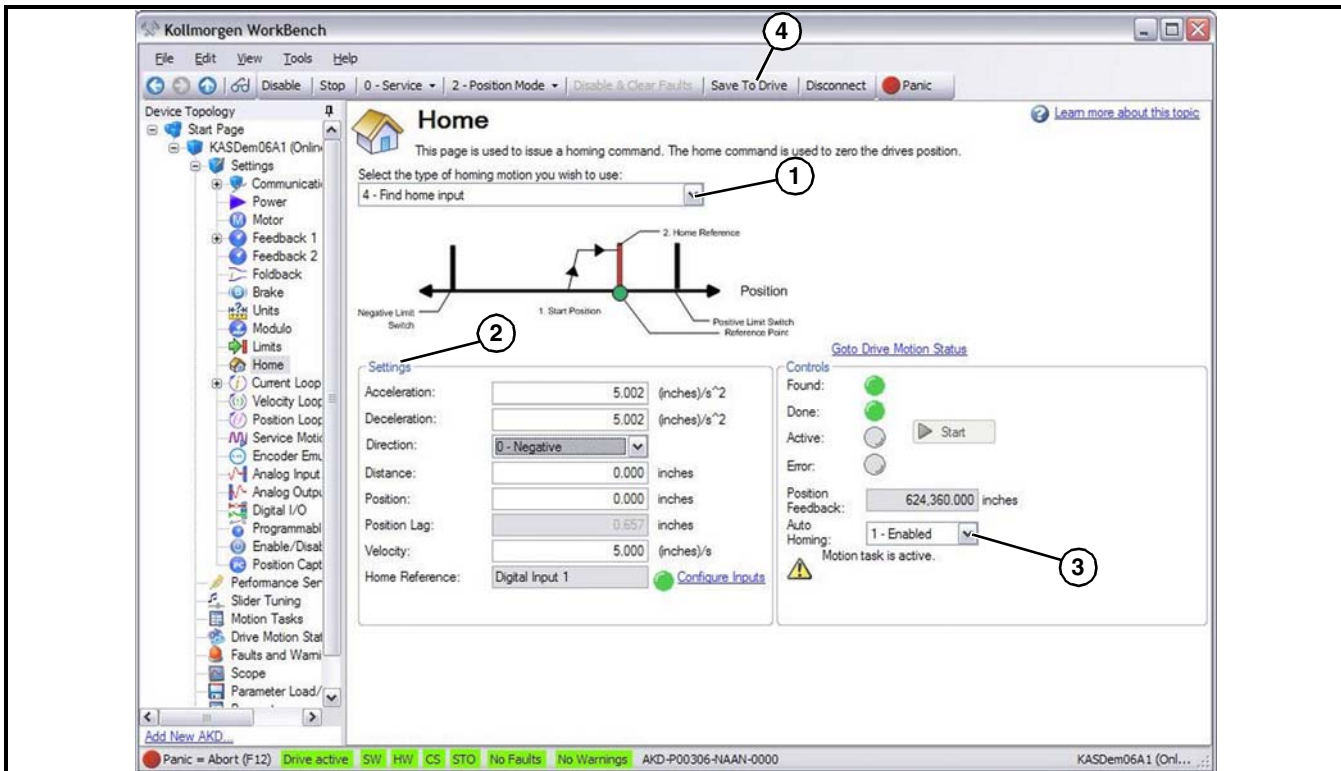

Figure 44
1.Fill in the **Select the type of homing motion you wish to use: (Figure 44, item 1).**
2.Fill in the **Settings (Figure 44, item 2)** Values.
•Set **Auto Homing: (Figure 44, item 3):**
-0- **Disabled** (Requires a signal to initiate Homing routine. Re-program unused digital input for signal (see “II. Programming the Homing Method” on page 44). Select DIN (X) = 5 – Start Home.)
4.Click **Save To Drive (Figure 44, item 4).**